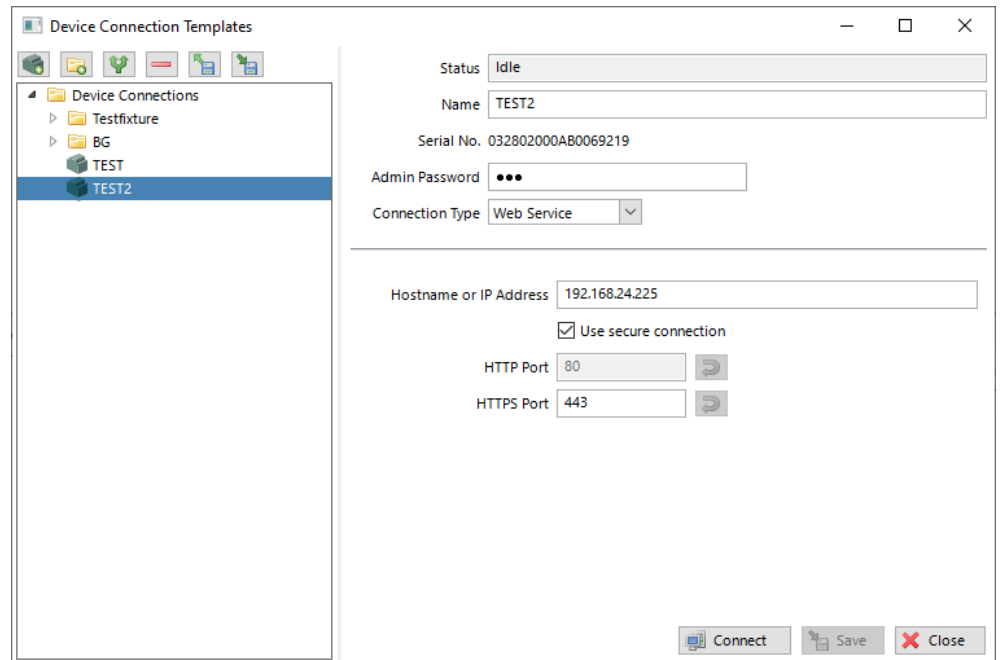

Figure 92: Device connection dialog.
2. Select the menu: **Connection → Connect to device**. This opens the device connection dialog as shown in Figure 92.